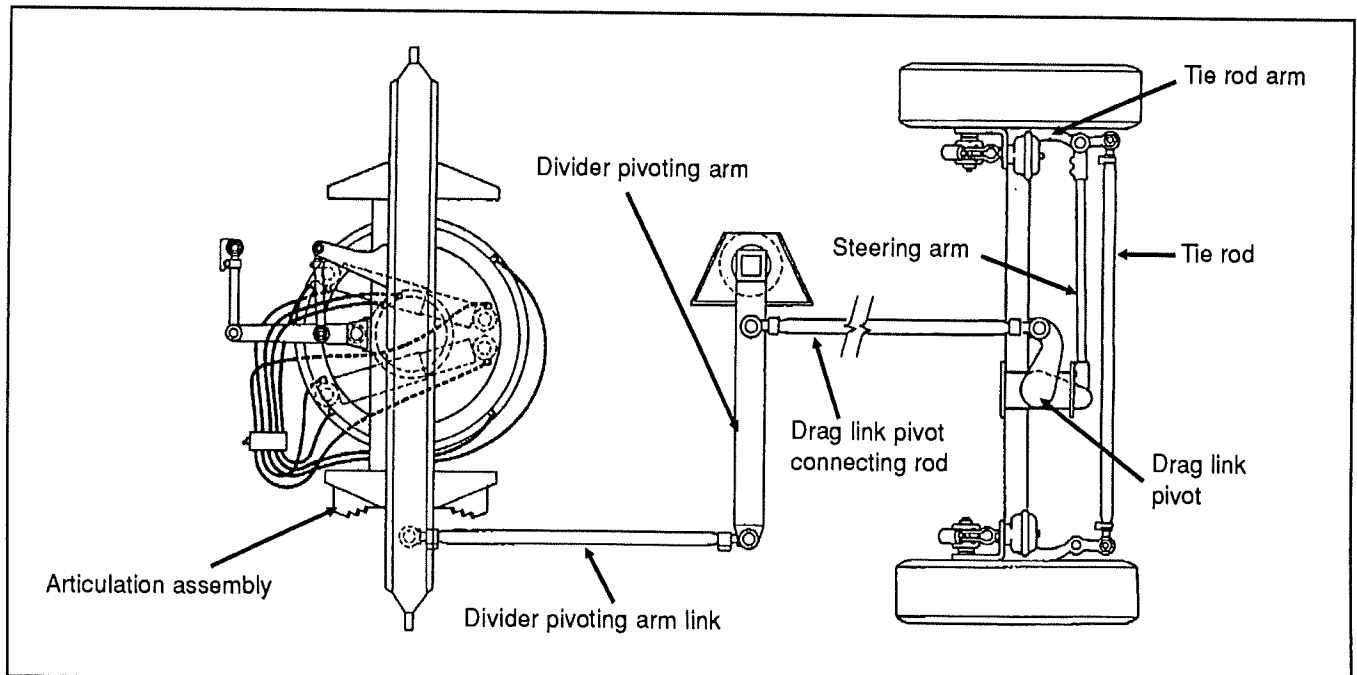

FIG. 2
4. Remove the steering arm from the drag link pivot (located between the tie rod arm and the drag link pivot as shown on figure 2), then attach it to the tie rod so it will not be damaged when removing the axle.
Like the front wheels, the rear wheels are steerable. The only difference is that the steering of the wheels is ensured through a linkage fixed to the central joint and independent from the front steering system. When the front section turns, the central joint of the articulation will reach an angle and the rear wheels will turn by means of a divider pivoting arm and a drag link pivot. Refer to figure 2 for details.